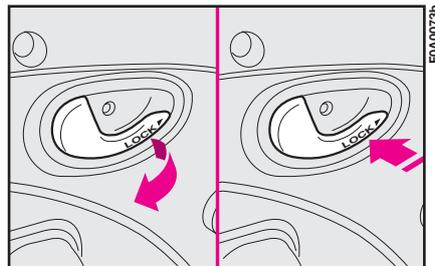

fig. 111
**Opening:** pull the opening lever **fig. 111** and make the door slide backward to the stop limit catch.
**Closing:** close the door making it sliding forward, then press once the lever at "LOCK" as shown in **fig. 111**.